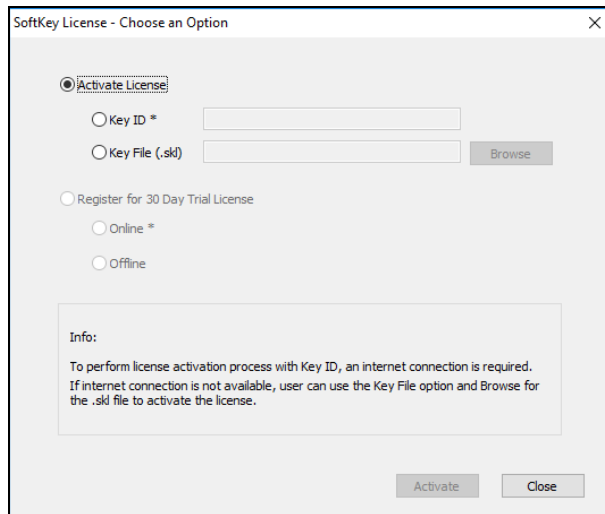

Figure 7. Activate License
- a. If the user has a HunterLab USB hardware key, then it can be used with a new sensor on the same computer. Return to Install the Software, Step 5 (Figure 7) and select the Sentinel Key to continue.